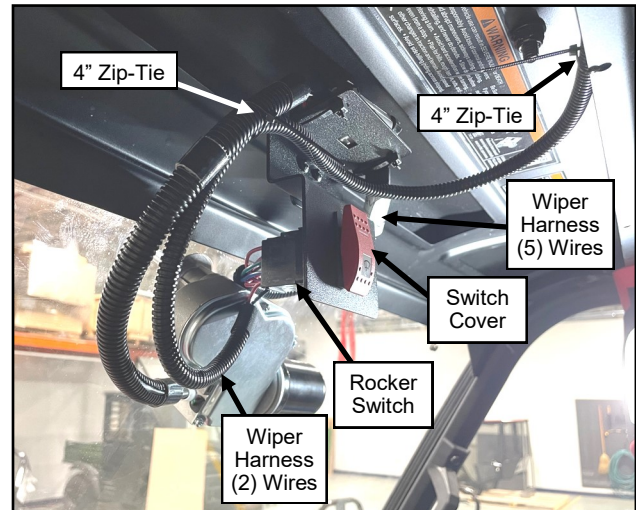

Fig. 1.11 (Install Rocker Switch to Vehicle)
- 1.11** Per figure 1.11, install rocker switch into the rocker switch bracket (making sure light bulb is at the bottom), install the switch cover (with symbol at the bottom) and connect the 8-pin VCH connector (found on the Wire Harness w/o Relay) to the back of the rocker switch. Next, bolt-on Rocker Switch Bracket to the center tab found on the windshield mount with provided hardware. Route the cables as shown. Use zip-ties to secure the harness in place. Run the (2) wire end (4ft long) part of the Wire Harness w/o Relay to the back edge of the windshield mount and use the (2 of the 3) provided holes to zip-tie the harness in place.